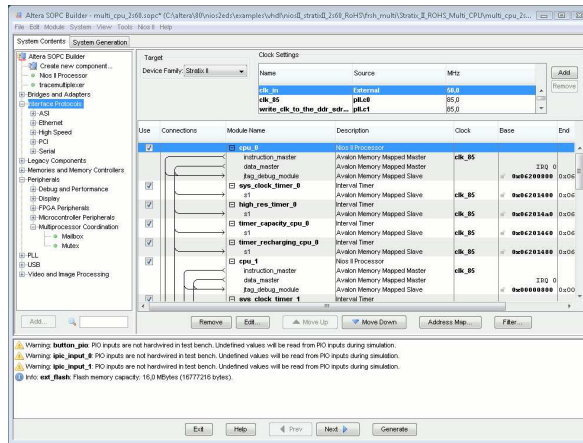

Figure 1.9: The list of SOPCBuilder components composing this demo.
21. Figure 1.9 shows the various components and the interrupt connections (the picture was taken after removing all the errors in the bottom part of the window as discussed in the following paragraphs). The following paragraphs discuss the settings of the “Board Settings” and the “Nios II CPU Settings” tabs of SOPCBuilder.